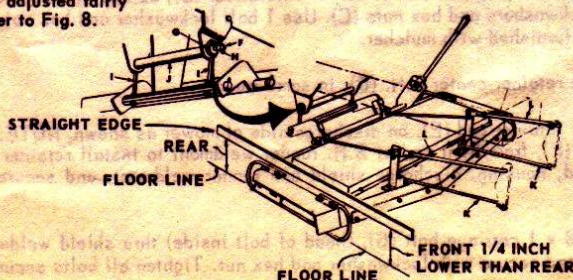

FIG. 8A
With tractor on level surface and tires properly inflated, place a straight edge on top of and on each side of mower housing between belt guard and end of housing as shown. Lengthen or shorten upper parallel rods (L) so that distance from under side of straight edge is $\frac{1}{8}$ " less in front of mower housing than it is in rear. If front of mower is higher than rear, shorten upper parallel rods (L). Lengthen upper parallel rods (L) to raise front end of mower. Refer to Fig. 8A. One turn of clevis on upper parallel rod will affect the height of front of mower approximately $\frac{5}{32}$ inch. Be sure to check and adjust both sides of mower.